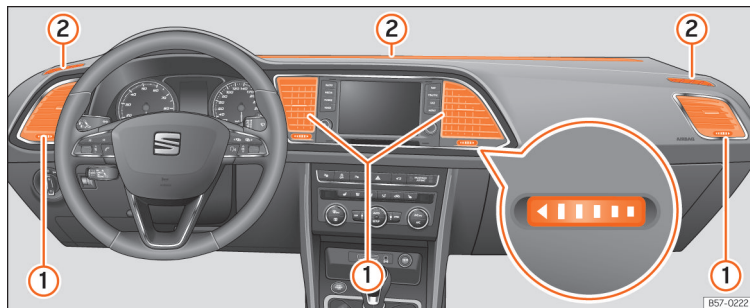

Fig. 185 On the dash panel air vents.
To ensure proper heating, cooling and ventilation in the vehicle interior, air vents » Fig. 185 ① should remain open.